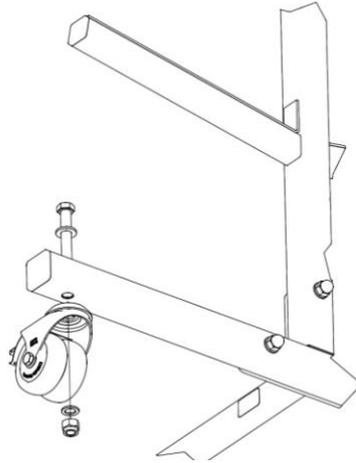

Figure 4: Assembling the swivel castors
Next, you will need to attach the castors ⑥ and ⑦ (see figure 4).